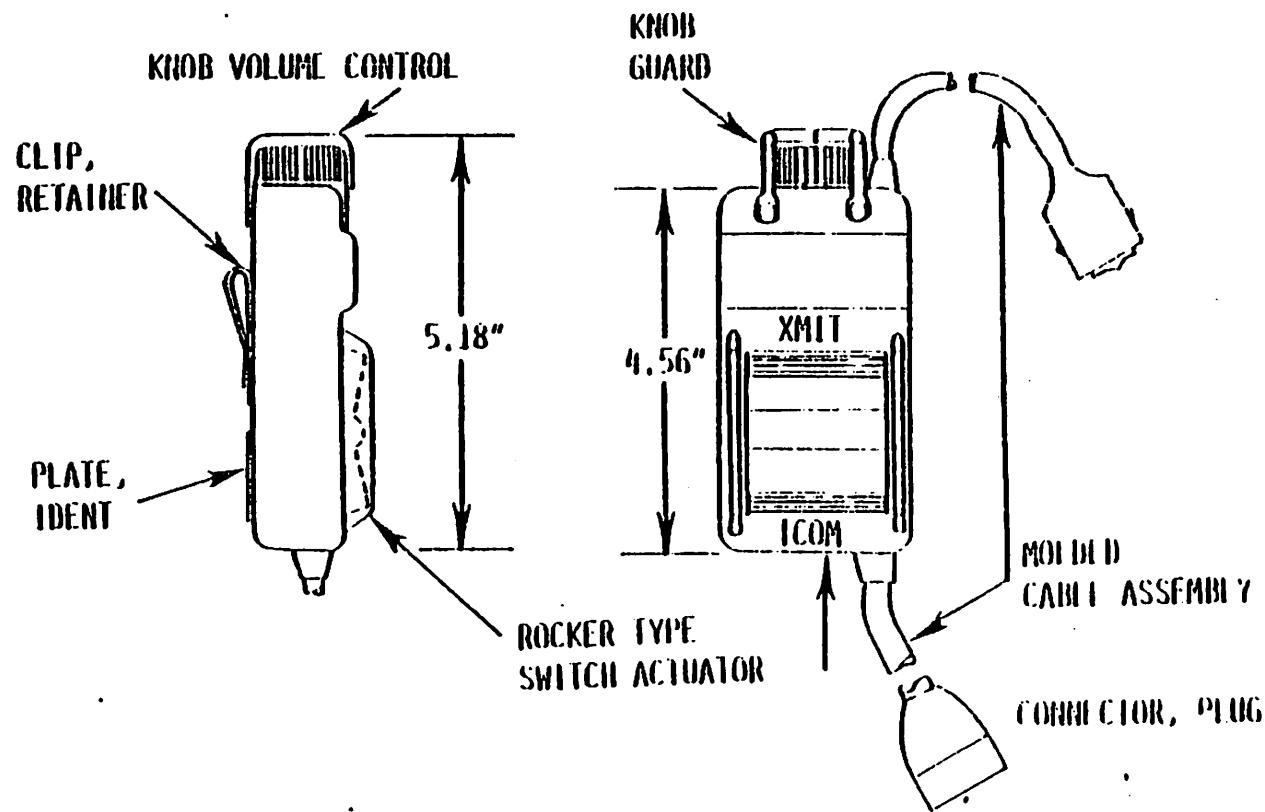

Figure 3-12.- Headset interface unit (HIU).
3.1.7 Headset Interface Unit (HIU).- The HIU is a portable mic switch which is part of a CCU (Figure 3-12). The HIU has a clip for attaching to an individual's flight suit. The unit has a rocker-type three-position switch and a volume control knob. The switch positions are XMIT, ICOMM, and an unlabeled, spring-loaded off, center position. The XMIT position allows access to intercom and external circuits, while the ICOMM position is for intercom only. The volume control knob acts in series with the volume controls on the associated ATU. See note in Section 3.3.A.